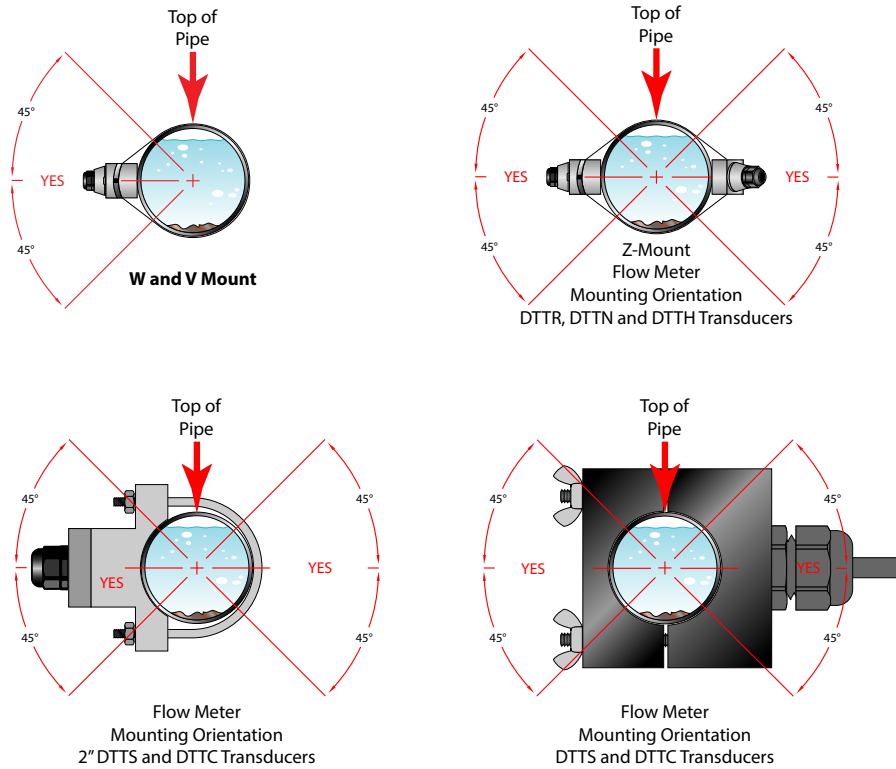

Figure 10: Transducer orientation for horizontal pipes
2. Orient and space the DTTR, DTTN and DTTH transducers on the pipe to provide optimum reliability and performance. On horizontal pipes, when Z-Mount is required, mount the transducers 180 radial degrees from one another and at least 45 degrees from the top-dead-center and bottom-dead-center of the pipe. See Figure 10 on page 18. On vertical pipes, the orientation is not critical.
3. Crease the paper at the fold line. Mark the crease. Place a mark on the pipe where one of the transducers will be located. See *Figure 10* for acceptable radial orientations. Wrap the template back around the pipe, placing the beginning of the paper and one corner in the location of the mark. Move to the other side of the pipe and mark the pipe at the ends of the crease. Measure from the end of the crease (directly across the pipe from the first transducer location) the dimension derived in "Select a Mounting Configuration" on page 17. Mark this location on the pipe.